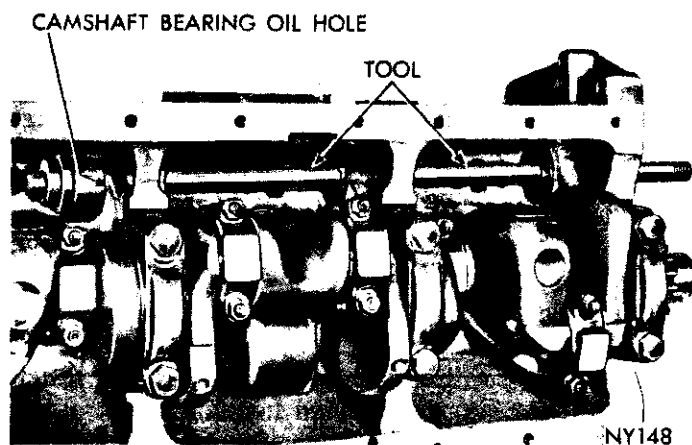

Fig. 31—Removing Camshaft Bearings (Tool C-3132A)
(1) Install new camshaft bearings with Tool C-3132A by sliding the new camshaft bearing shell over the proper adapter.
(2) Position bearing in tool. Install horseshoe lock and drive the bearing shell into place, (Fig. 31). **The camshaft bearing oil hole or holes must be in exact**